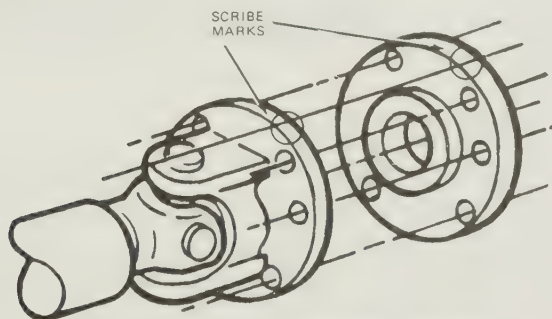

Fig. 7.2. Later model driveshaft coupling
- 9 On later models, the rear end of the driveshaft is connected to the rear axle pinion by means of a flanged type coupling (Fig. 7.2). When disconnecting this type of coupling, mark the alignment of the two halves and when refitting, tighten the bolts to the specified torque and use new self-locking nuts if there is any doubt as to their efficiency.